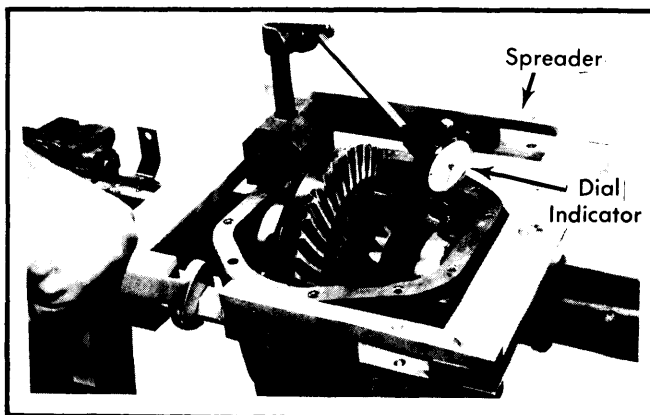

Fig. 5 Correct Procedure for Spreading Housing
1) Remove axles and housing cover. Be sure that side bearing caps are marked so that they can later be installed in their original positions. Remove bolts and side bearing caps. Use a housing spreader to spread differential housing .015-.020". Use a dial indicator to measure spread. Carefully pry differential case out of housing. Be careful not to damage machined surface of housing. Remove spreader immediately to prevent possibility of carrier taking set. See Fig. 5.